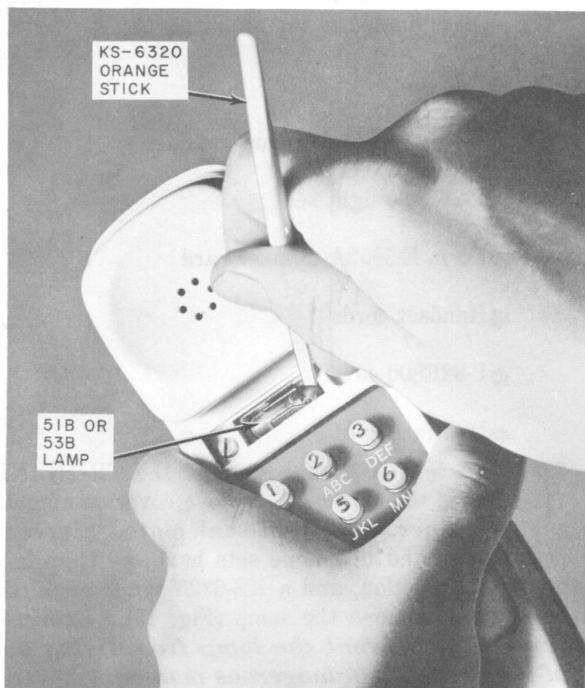
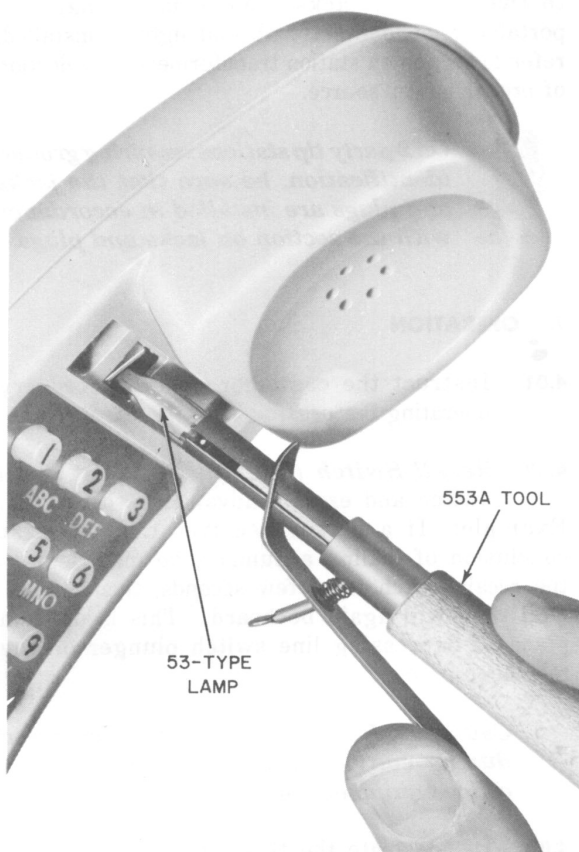

Fig. 10—Removing Dial Lamp From Current Production 2220B Hand Telephone Set
Fig. 11—Replacing Dial Lamp in Early Production 2220B Hand Telephone Set
5.05 To replace a dial lamp in the TRIMLINE hand telephone set, remove cover or number card retainer, and light-seal plate. Current production hand telephone sets have the lamp in a horizontal position, and a KS-6320 range stick can be used to remove the lamp (Fig. 10). **Exercise caution to prevent the lamp from flying out of the socket in a dangerous manner.** In early production hand telephone sets use a 553A tool to remove the lamp from its vertical position (Fig. 11).